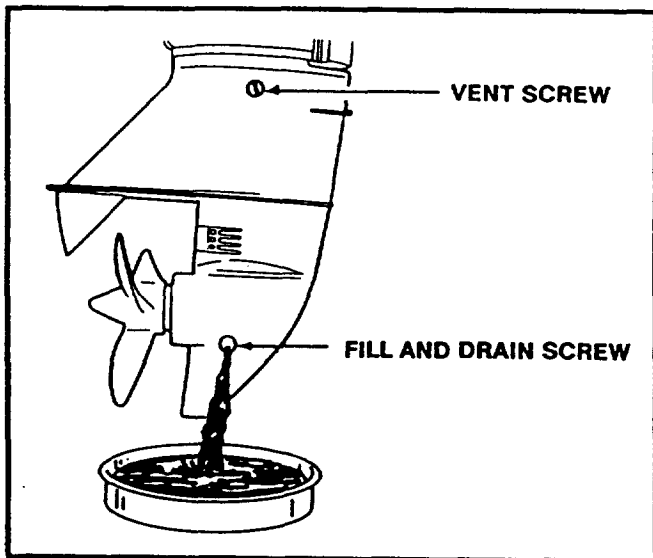

FIGURE 32
- With motor upright, remove the vent screw and the fill and drain screw. Allow lubricant to drain completely (Figure 32).